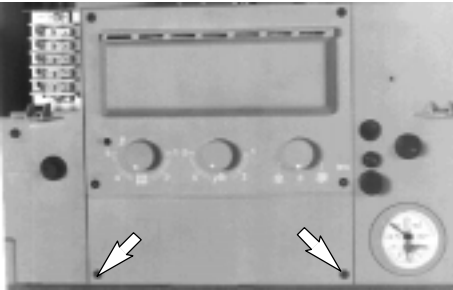

fig. 4.9
- 4 Loosen the two screws (fig. 4.9) and remove the cover of the control panel.